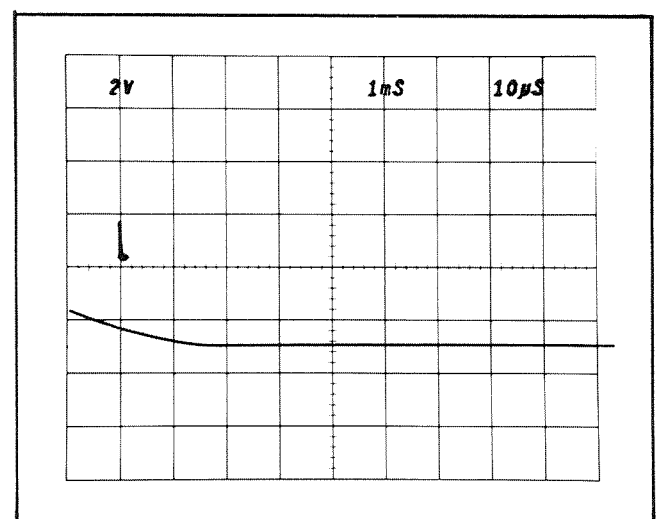

Fig. 5-10. Typical CRT display when checking delay adjustments.
i. CHECK—The delayed (B) sweep starts at the first marker. See lower trace in Fig. 5-10.